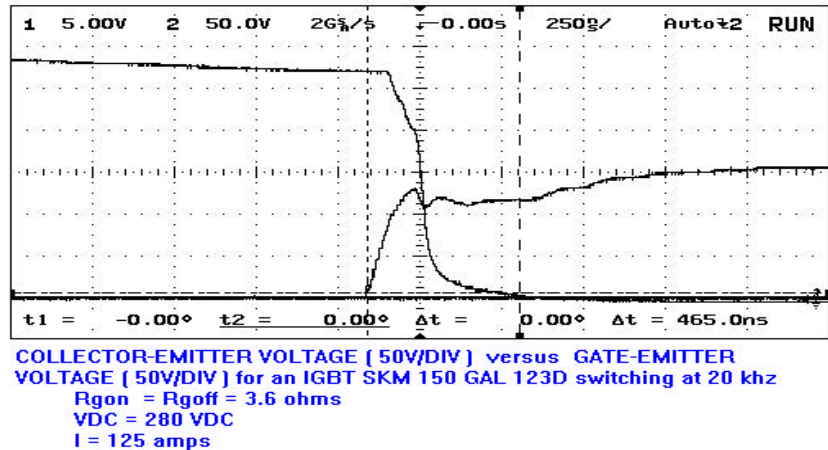

Figure 5
- In figure 5 the collector-emitter and gate emitter voltage are displayed for the turn-on situation of an IGBT SKM 150 GA.